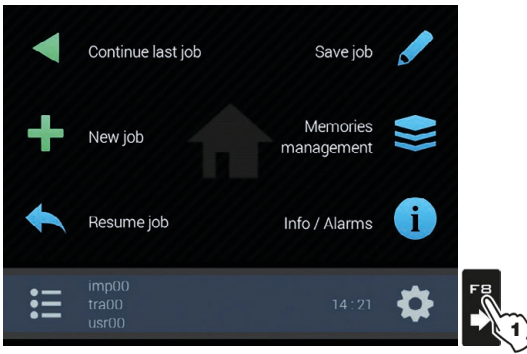
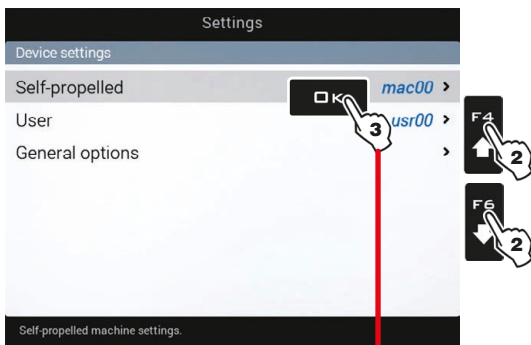
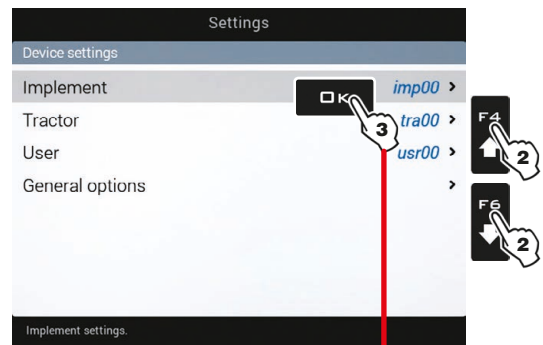

Fig. 41
Fig. 42
Fig. 43
- 1 In the "Home" screen (Fig. 41) press **F8** to enter menu **Settings** (Fig. 42 / Fig. 43).
A NAVIGATION SUMMARY IS AVAILABLE IN Fig. 42 AND Fig. 43.